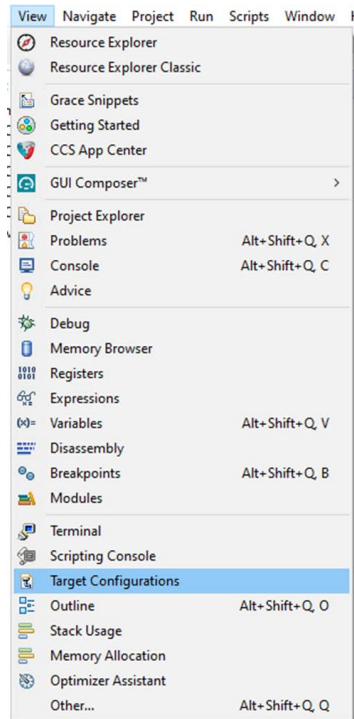

Figure 4: Target Configuration
1. In CCS, select **Target Configuration** under View (Figure 4).